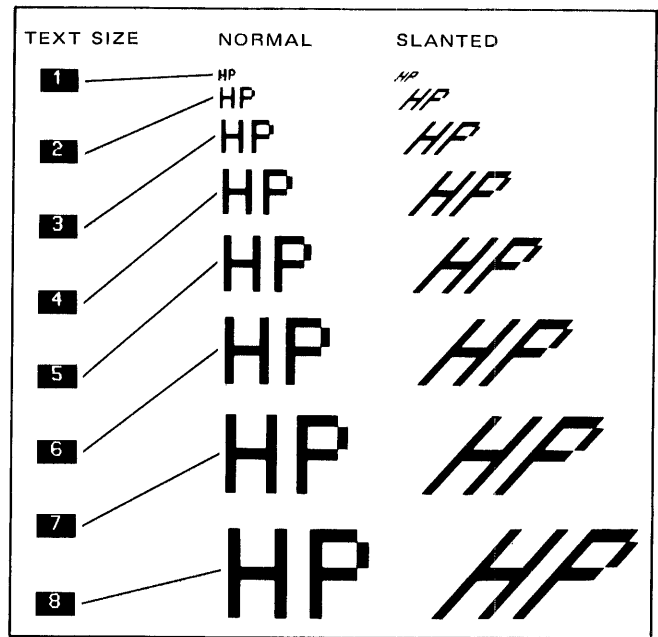

Figure 3-11. Graphics Text Sizes
**SIZE.** The ASCII characters 1 through 8 specify the character size for graphics text. A "1" indicates the smallest character, a 5 by 7 dot matrix character in a 7 by 10 cell. Increasing the size increases the size of the dots. If a text size of 1 is specified, each dot in the cell is one dot on the screen. A size of 2 uses 4 screen dots for each character dot (2 X 2), and so on (see figure 3-11). A size of "1" is the default.